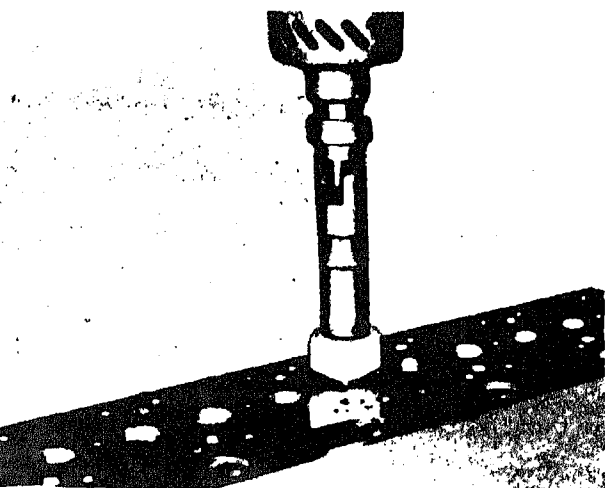

Fig. 2-3-3. Refacing valve seat
4. Grind valve seats, holding seating motor as nearly vertical as possible. Fig. 2-3-3. A severe angle will cause seats to be out-of-true depending upon amount of wear in guides, bearings, mandrel, bushings, etc., even though grinder is a universal joint.